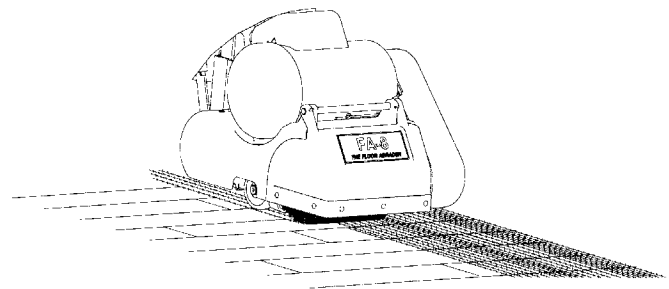
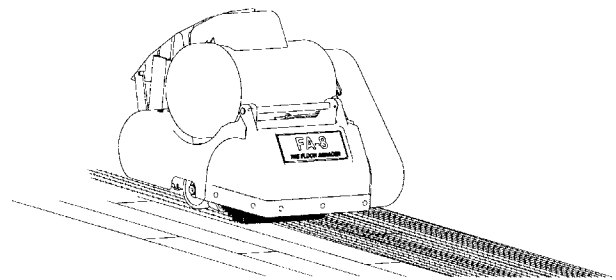

Figure 5A
Figure 5B
5. You may advance the machine against (fig. 5A) or with the direction of the flooring (fig. 5B) to reduce the amount of unreachable area and best coverage on the floor.